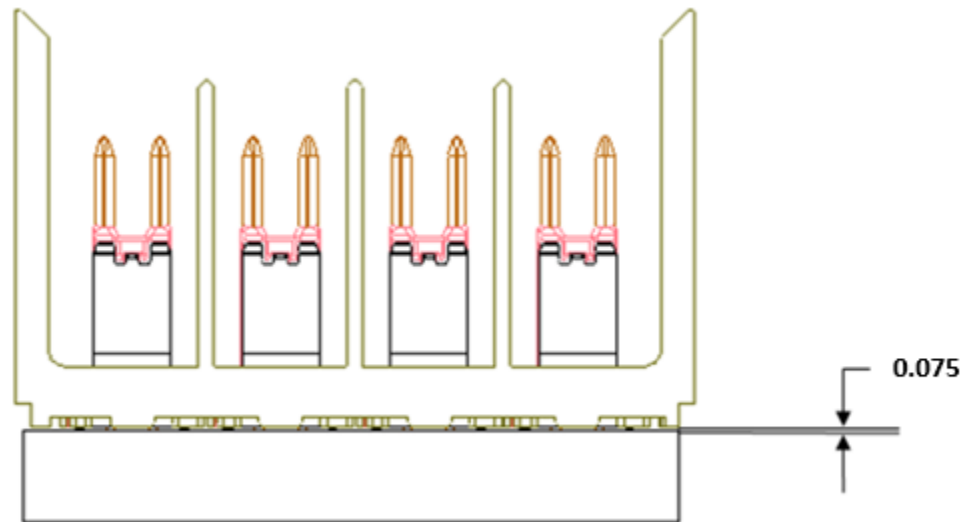

Figure 8: 0.075 mm maximum height off board surface
Step 11. Visually identify the plastic standoff on the housing of the connector, contacting the board surface. This standoff cannot be more than 0.075mm from the board surface, and there should be minimal visible difference in height between adjacent modules (see Figure 8).